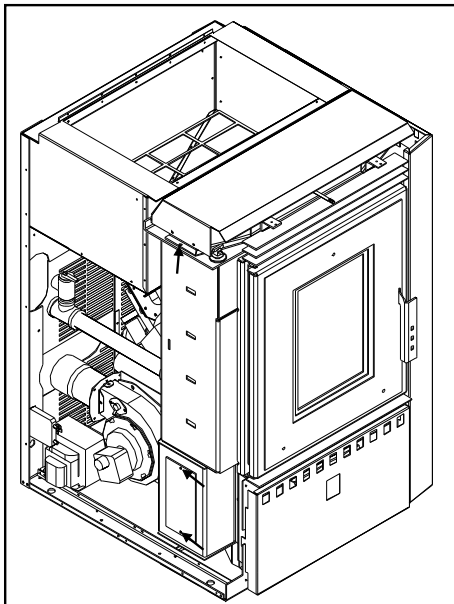

Figure 11
3. Remove the heat exchanger cover from the top of the stove by removing the screw on each side shown in Figure 11.
7. With the cab sides removed, you will see a clean-out cover on each side (see Figure 11), remove the two (2) T-20 screws from the cover. Vacuum out all ash from behind the cover.